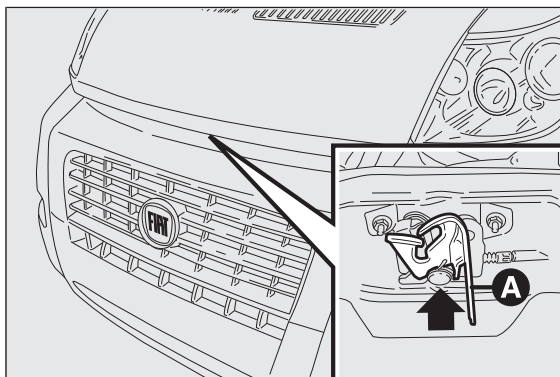

fig. 127
- ☐ pull lever A fig. 127 as shown in the figure;